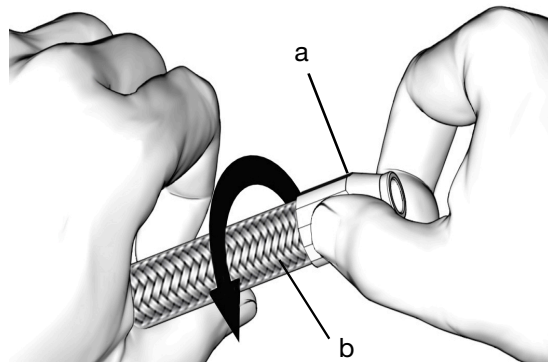

FIG. 59
4. Slide socket (a) over cut end of hose (b). Hand tighten socket to hose by turning socket counterclockwise into hose (FIG. 59).